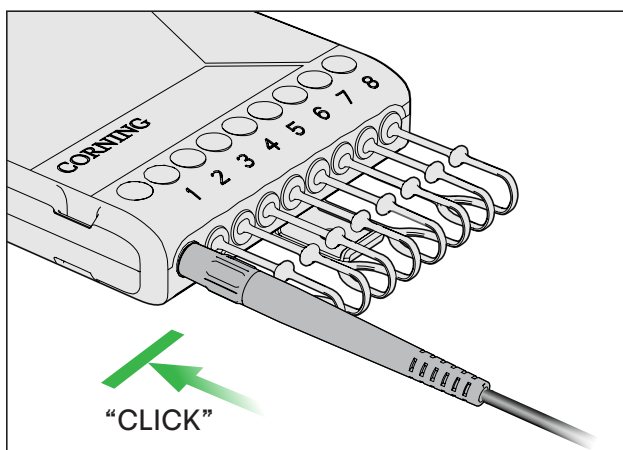

Figure 24
**Step 6:** Insert the drop connector into the terminal port, until the button clicks and the latch is engaged. (Figure 24)